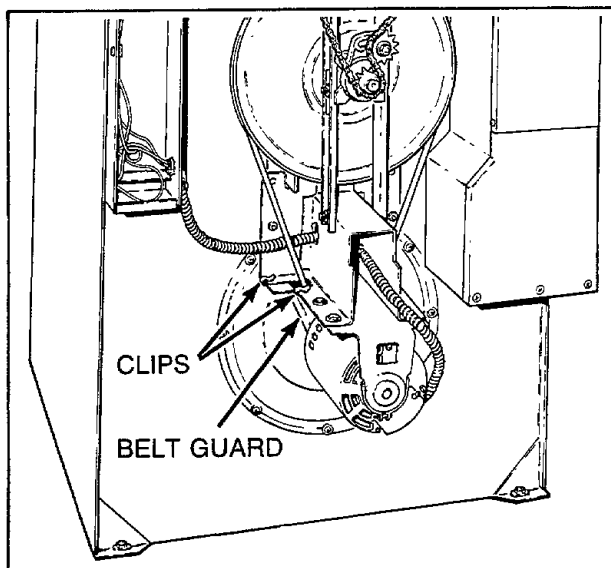

Figure 22
- b. Remove two clips from each side, Figure 22,
- c. Remove four clips holding belt guard to motor bracket, *Figure 22*, and remove belt guard.